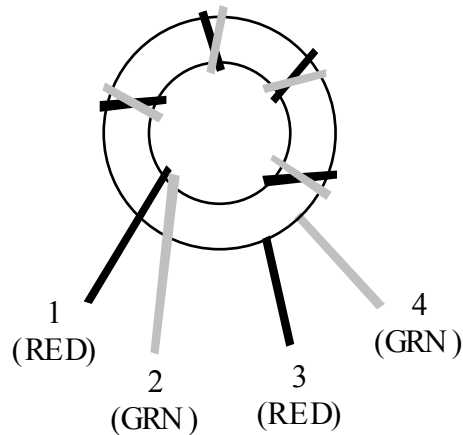

Figure 8-5
T4 uses a *bi-filar* winding, which means that two wires are wound on the core together. The wires for the two windings will be twisted together (see Figure 8-5).
- Wind the twisted wires onto the 1/2" (12.7 mm) dia. ferrite core (FT50-43, dark gray), using 5 turns and covering about 85% of the core. Figure 8-5 shows how the winding should look.
- Separate T4's leads as shown in Figure 8-5. Strip and tin the leads. Be careful not to let the red and green wires short together.